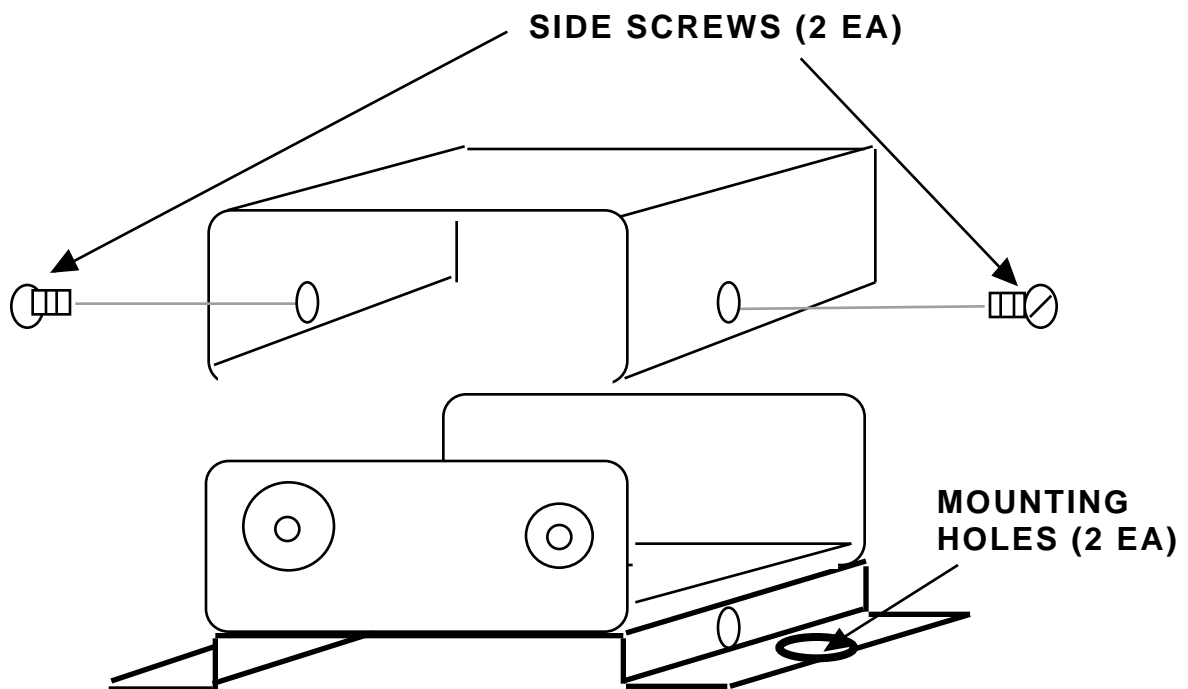
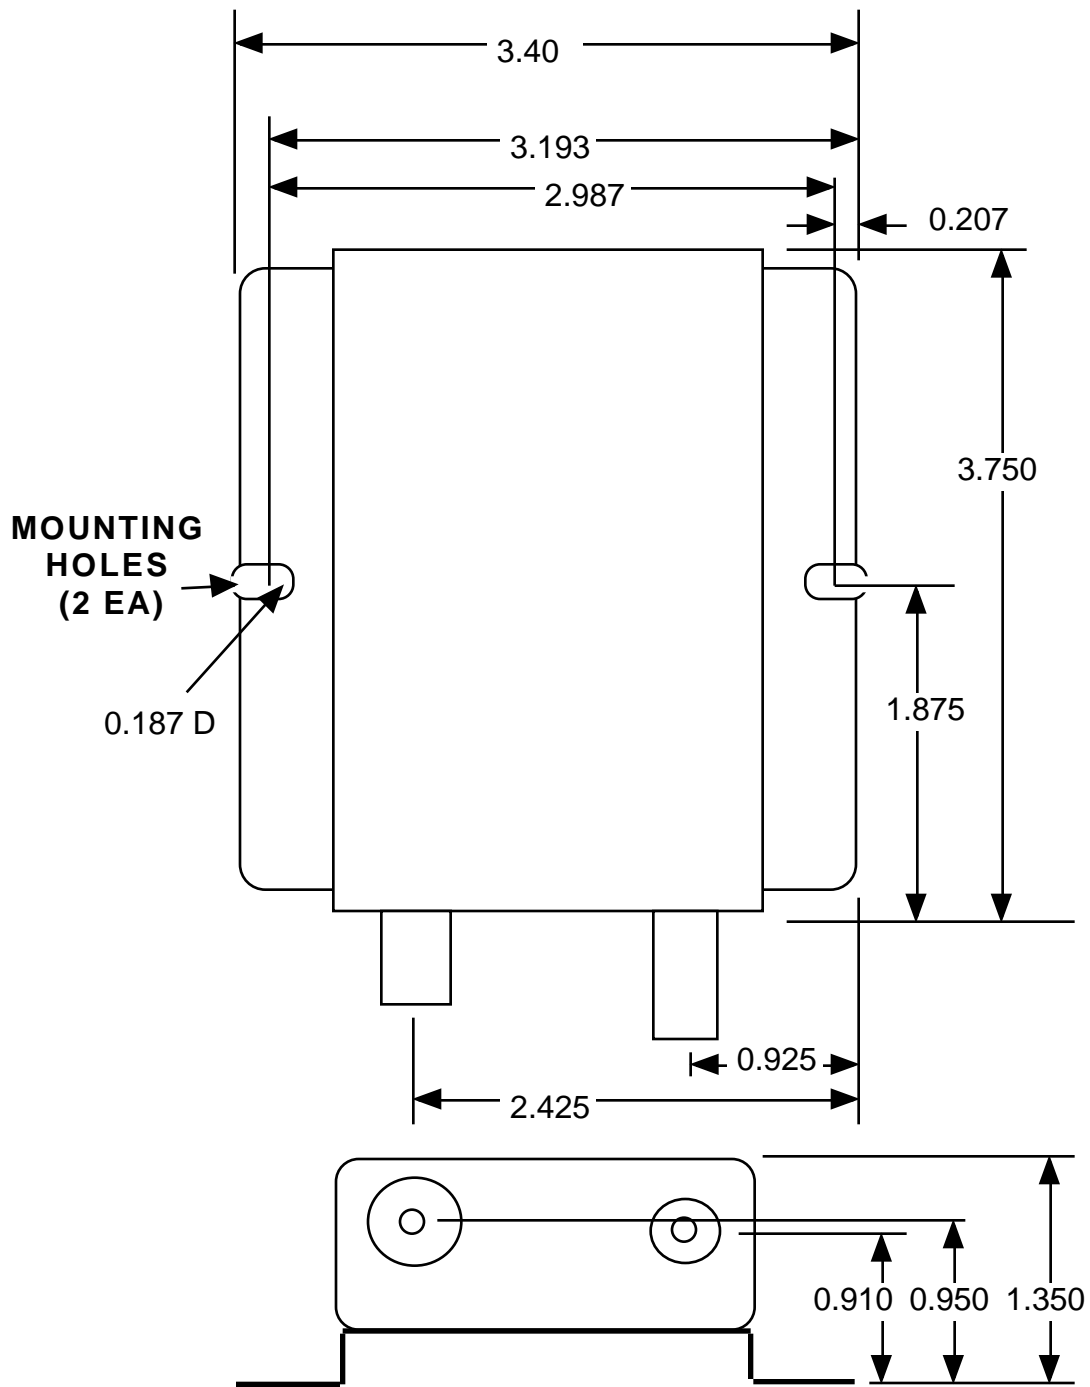

FIGURE 2.1 2006-02 ASSEMBLY DRAWING
Figure 2.2 2006-02 Package Dimensions
2.1 Mechanical - The 2006-02 is packaged in an aluminum chassis. The unit can be mounted to a panel using the 2 holes at the bottom. The unit derives +DC (+14 to +20 VDC) from the RF out center conductor. (See Figure 2.1 and Figure 2.2).
- 1.) Secure the 2006-02 to a panel using the two bottom mounting holes (see Figure 2.1 and Figure 2.2)